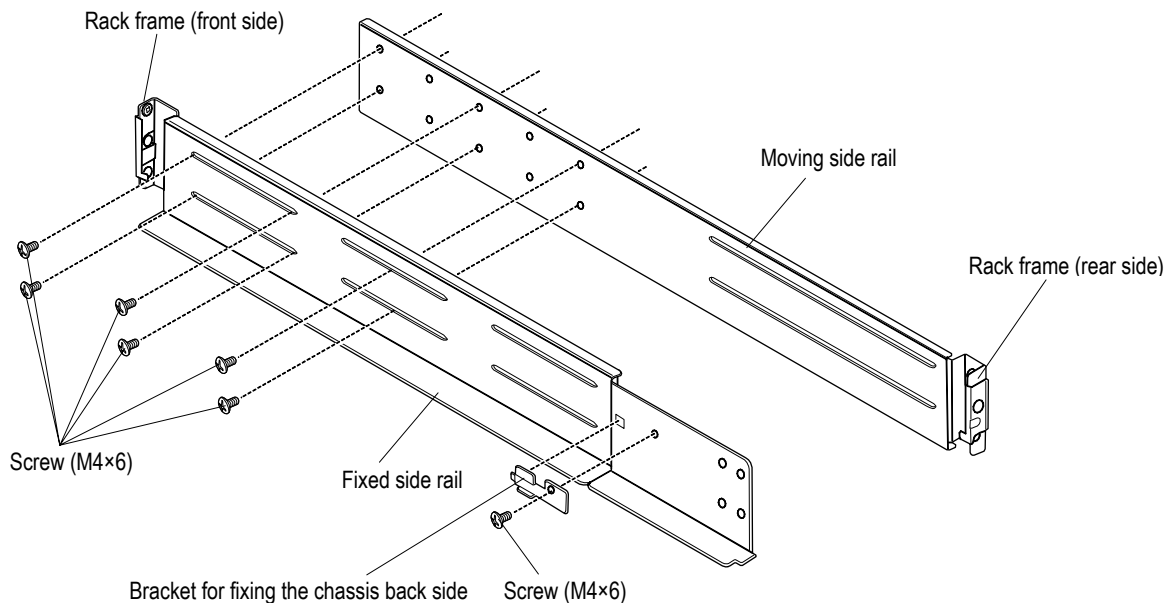

Figure 2.2.25 Installing Rack Rails (Square Hole) for Drive Box (2U)-1
- (i) Fix the fixed side rail (R) and moving side rail (R) temporarily with six screws (M4×6). (See Figure 2.2.25).